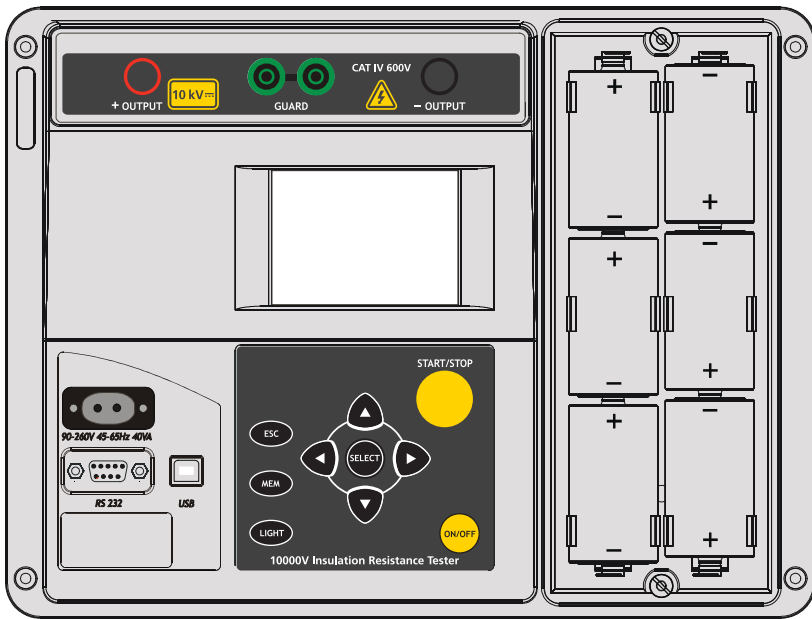

Fig. 30 Correct polarity of inserted batteries
Battery cells are stored in the bottom section of the instrument casing under the battery cover (see Fig. 30). When inserting batteries for the first time please note the following:
- Insert the batteries correctly (see Fig. 30), otherwise the test instrument will not operate!
Battery cells are stored in the bottom section of the instrument casing under the battery cover (see Fig. 30). In case the batteries become defective please note the following:
- To easily remove batteries from battery holder first remove the middle batteries in each column and then the others (see the Fig. 30).
- Insert the batteries correctly (see Fig. 30), otherwise the test instrument will not operate and battery may be discharged!
Nominal power supply voltage is 7.2 V DC. Use six NiMH cells with size equivalent to IEC LR20 (dimensions: diameter = 33 mm, height = 58 mm). See the Fig. 30 for correct polarity of the batteries.